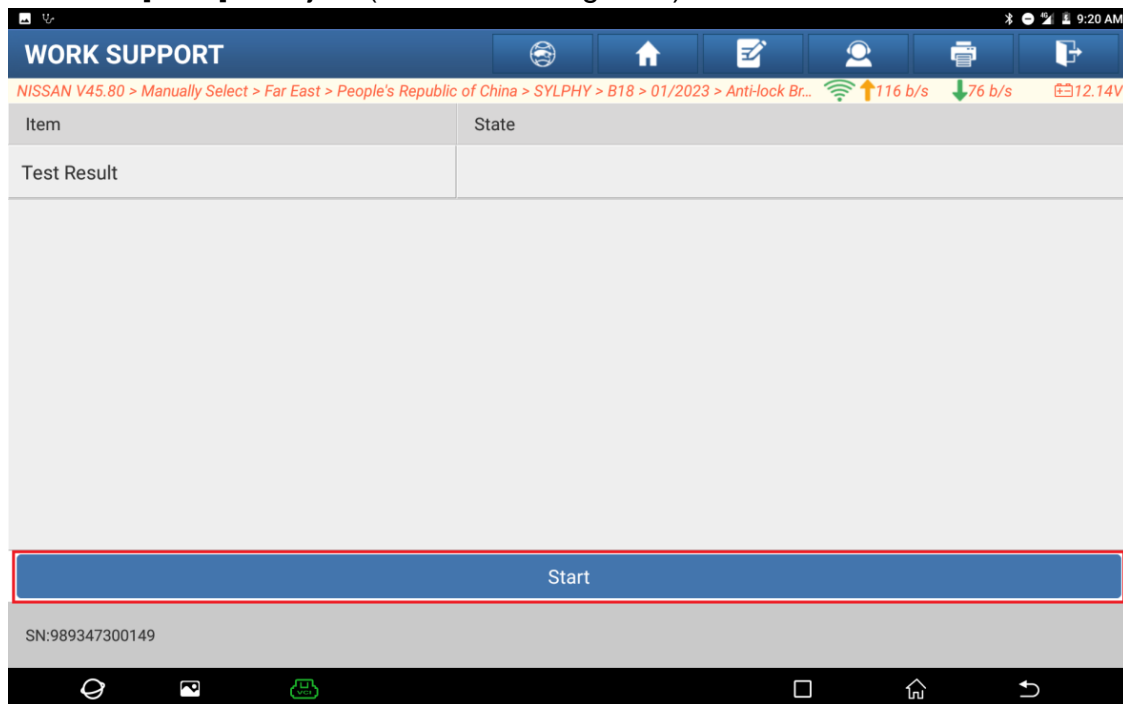

Figure 7
7. Click [Start] to adjust (as shown in Figure 7).